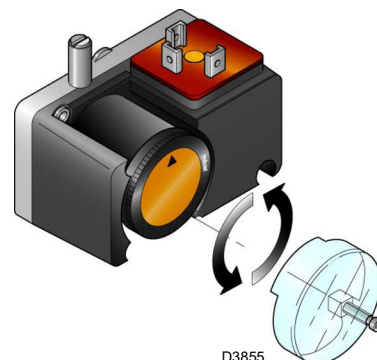

Fig. 38
- Adjust the minimum gas pressure switch (Fig. 38) to the start of the scale.
Adjust the minimum gas pressure switch (Fig. 38) after having adjusted the burner, the gas valves and the gas train stabiliser. With the burner operating at maximum output: